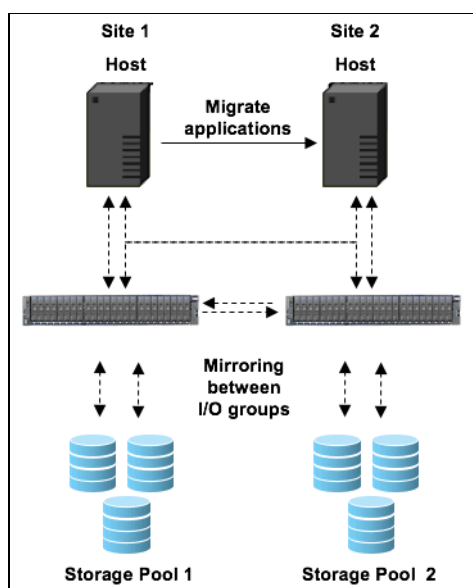

Figure 5-10 Overall HyperSwap diagram
HyperSwap is a system topology that enables Disaster Recovery (DR) and high availability between I/O groups at different locations. Before you configure HyperSwap volumes, the system topology must be configured for HyperSwap and sites must be defined. Figure 5-10 shows an overall view of IBM SAN Volume Controller HyperSwap that is configured with two sites.